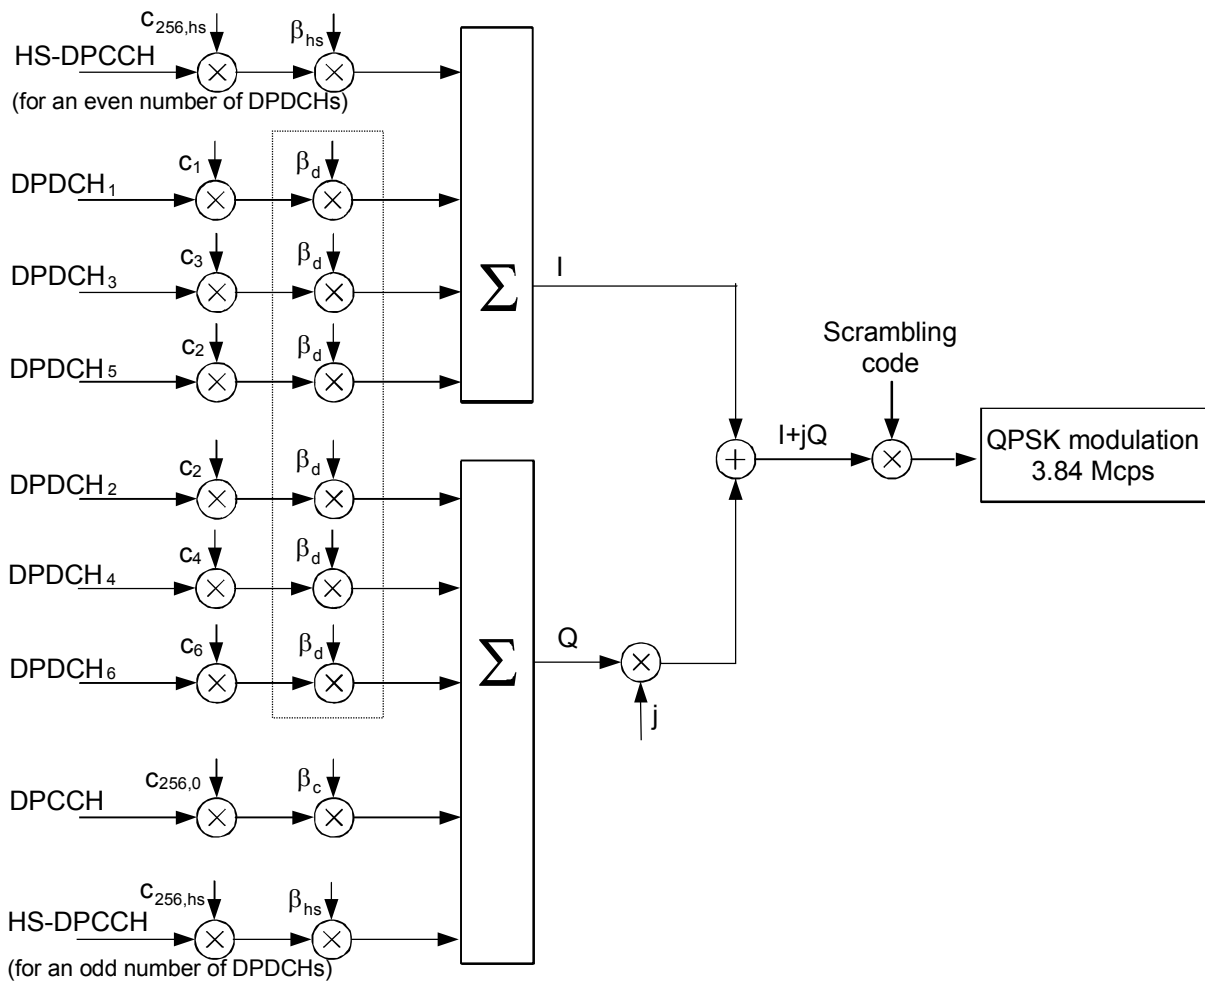

Fig. 4-101 Spreading of the uplink channels and gain factors
- The power offset parameters Δ_{ACK} , Δ_{NACK} , and Δ_{CQI} determine the HS-DPCCH power offset for HS-DPCCH slots carrying ACK, NACK, and CQI messages, respectively (see standard TS 25.214). The gain factors β_{hs} in Fig. 4-101 below are calculated from the HS-DPCCH power offset. The signalled values for all three power offset parameters are integer numbers between 0 and 8.